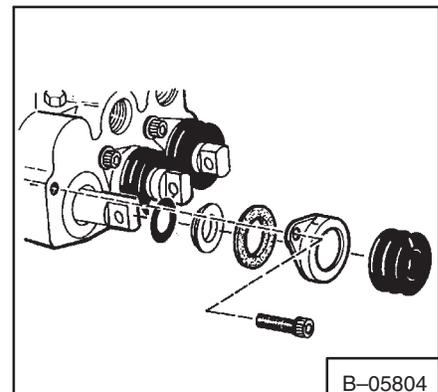

**Fig. 2–44a** Tilt Centering Spring Assembly
16. Install the washer and snap ring on the detent sleeve (Fig. 2–45a).
17. Put oil on the O-ring (Fig. 2–44a, Item 1). Install the O-ring on the tilt spool.
19. Install the back-up washer, end cap, centering spring, end cap and adaptor (Fig. 2–44a, Items 2 thru 6).
20. Put LOCTITE on the bolt (Fig. 2–44a, Item 7). Install and tighten the bolt to 90–100 in.-lbs. (10–11 Nm) torque.